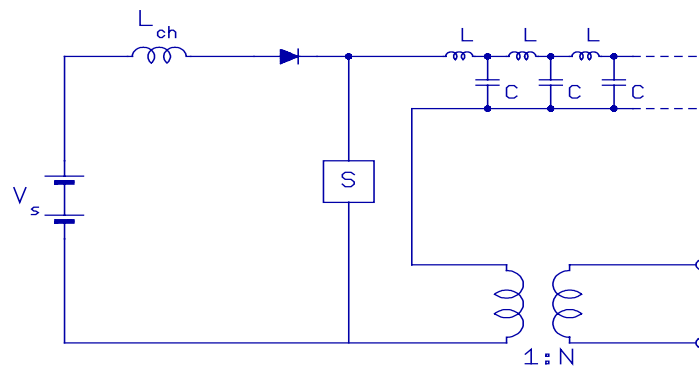

Figure C8
- (b) The line driver circuit for a high power magnetron is shown in figure C8. Explain the operation of this circuit, using waveform diagrams to supplement the description. [25%]
- (c) A line driver circuit of the form shown in figure C8 is to be used to power a magnetron source in a ground-scanning pulse radar system. The radar system requires a pulse duration of $1\mu\text{s}$ and a pulse period of 1ms . If the magnetron has a DC input impedance of 600Ω and requires an input pulse power of 1kW to give a satisfactory output, determine the required values of L_{ch} , L , C and N , given that the DC supply voltage (V_s) is 250V and that there are 20 sections in the artificial delay line. [35%]